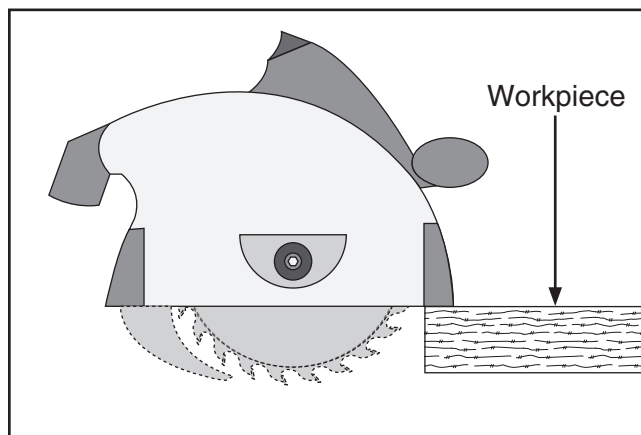

Figure 14. Positioning saw on workpiece for straight cut.
2. Position front of saw on workpiece, leaving enough room for blade to fully extend from bottom without coming into contact with workpiece (see **Figure 14**).